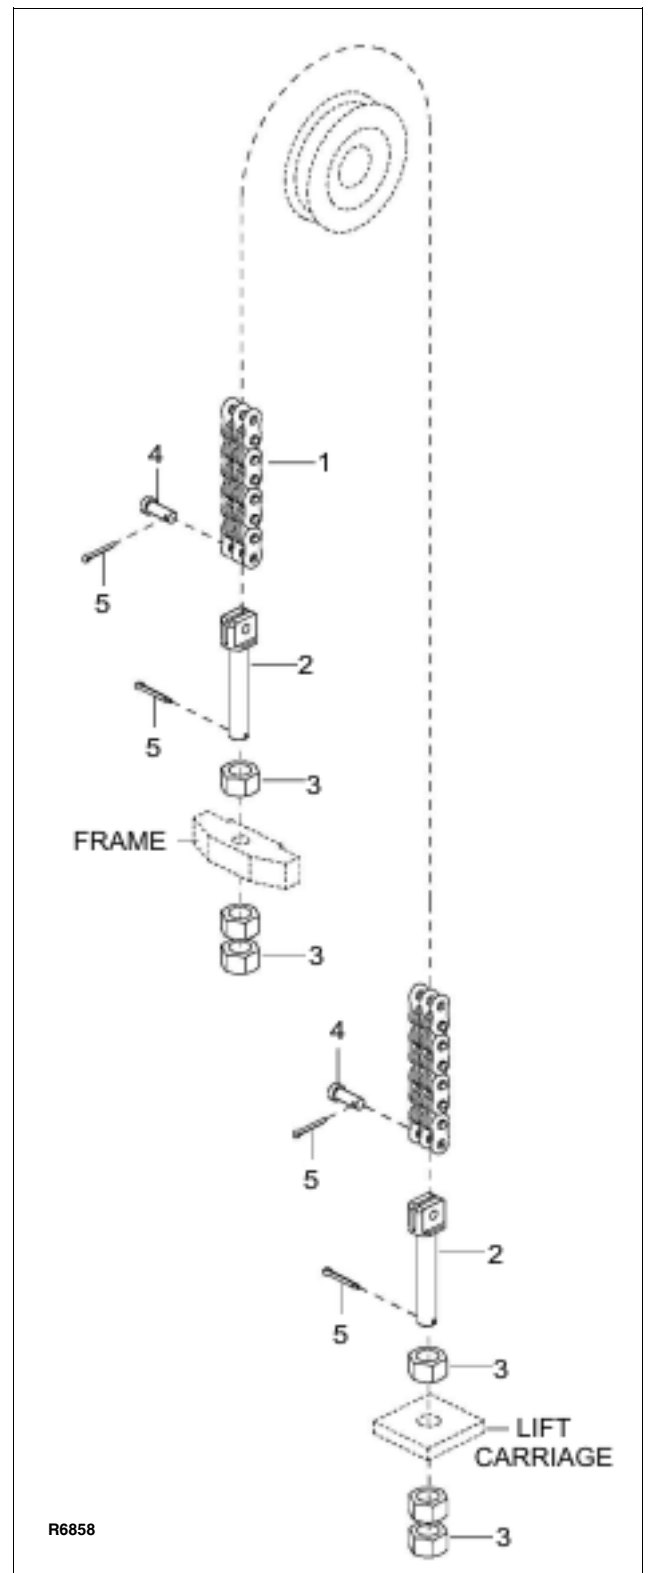

Figure 8-1 Chain Assembly (Mono)
3. Loosen jam nut (3, Figure 8-1), located the above either the frame or the lift carriage to allow for adjustment of middle jam nut.
4. Break the lower jam nut (3) free from the middle jam nut (3).
5. Take up slack in the lift chain with middle jam nut (3).
6. Align anchor (2) so the clevis pin (4) is parallel to the mast.
4. Remove cotter pin (5, Figure 8-1) and clevis pin (4) connecting chain (1) to adjusting screw (2) at the lift carriage.
5. Remove cotter pin (5) and clevis pin (4) connecting chain (1) to adjusting screw (2) at the frame.
7. Position new chain on sheave (4).
8. Secure chain to adjusting screw (2, Figure 8-1) at the frame with clevis pin (4) and cotter pin (5).
9. Connect the opposite end of chain to adjusting screw (2) at the lift carriage with clevis pin (4) and cotter pin (5).